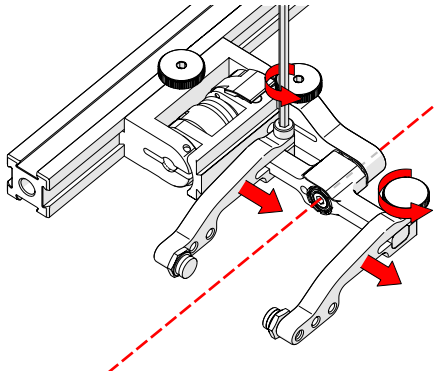

Fig. 118 - Adjust probe holder arms
5. Loosen the probe holder arm adjustment knob (Fig. 118) and remove outer probe holder arm from yoke.
6. Adjust inner probe holder arm as required to best centre the probe on the yoke's pivot axis (Fig. 118).
**TIP:** The probe holder yoke can accommodate many different probe and wedge sizes of varying widths. It is best to centre the wedge with the yoke's pivot axis to reduce wedge tipping when scanning. Position the inner probe holder arm accordingly with the centre of the yoke (Fig. 118).